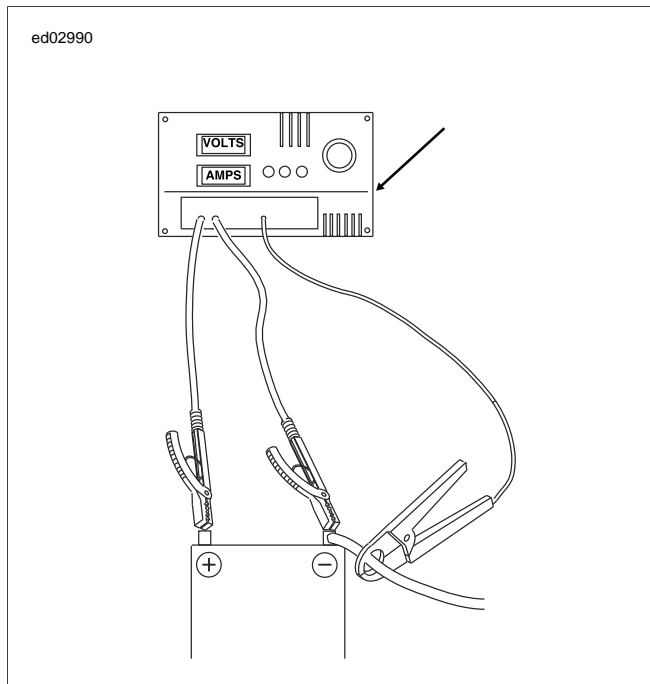

Figure 1-21. Check Current Draw (Ignition Switch On)
1. See Figure 1-21. To check for this condition, place load tester induction pickup or current probe pickup over battery negative cable.
1. See Figure 1-21. Connect load tester.
4. See Figure 1-21. After removing the load, read the load tester voltage meter.